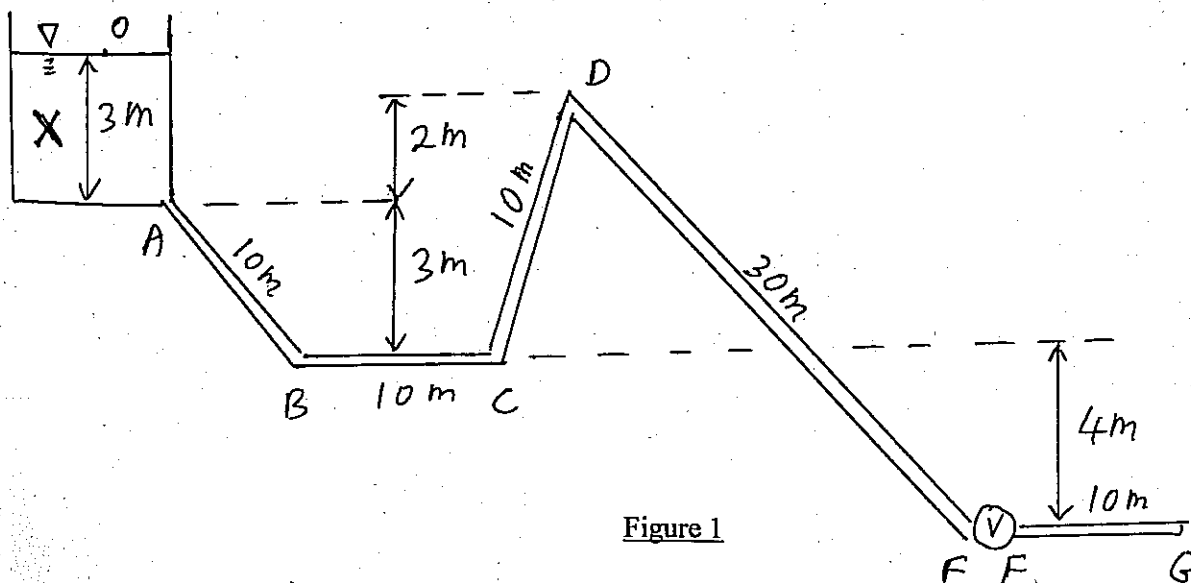

Figure 1
1) Water is discharged to the atmosphere from a Tank, X, through a pipeline ABCDEFG, as shown in Figure 1. All the pipes have a diameter of 10 cm and a friction factor of 0.01. A valve, V, is situated between E and F, as shown in the figure. The valve is fully open and has a loss coefficient of 0.15.